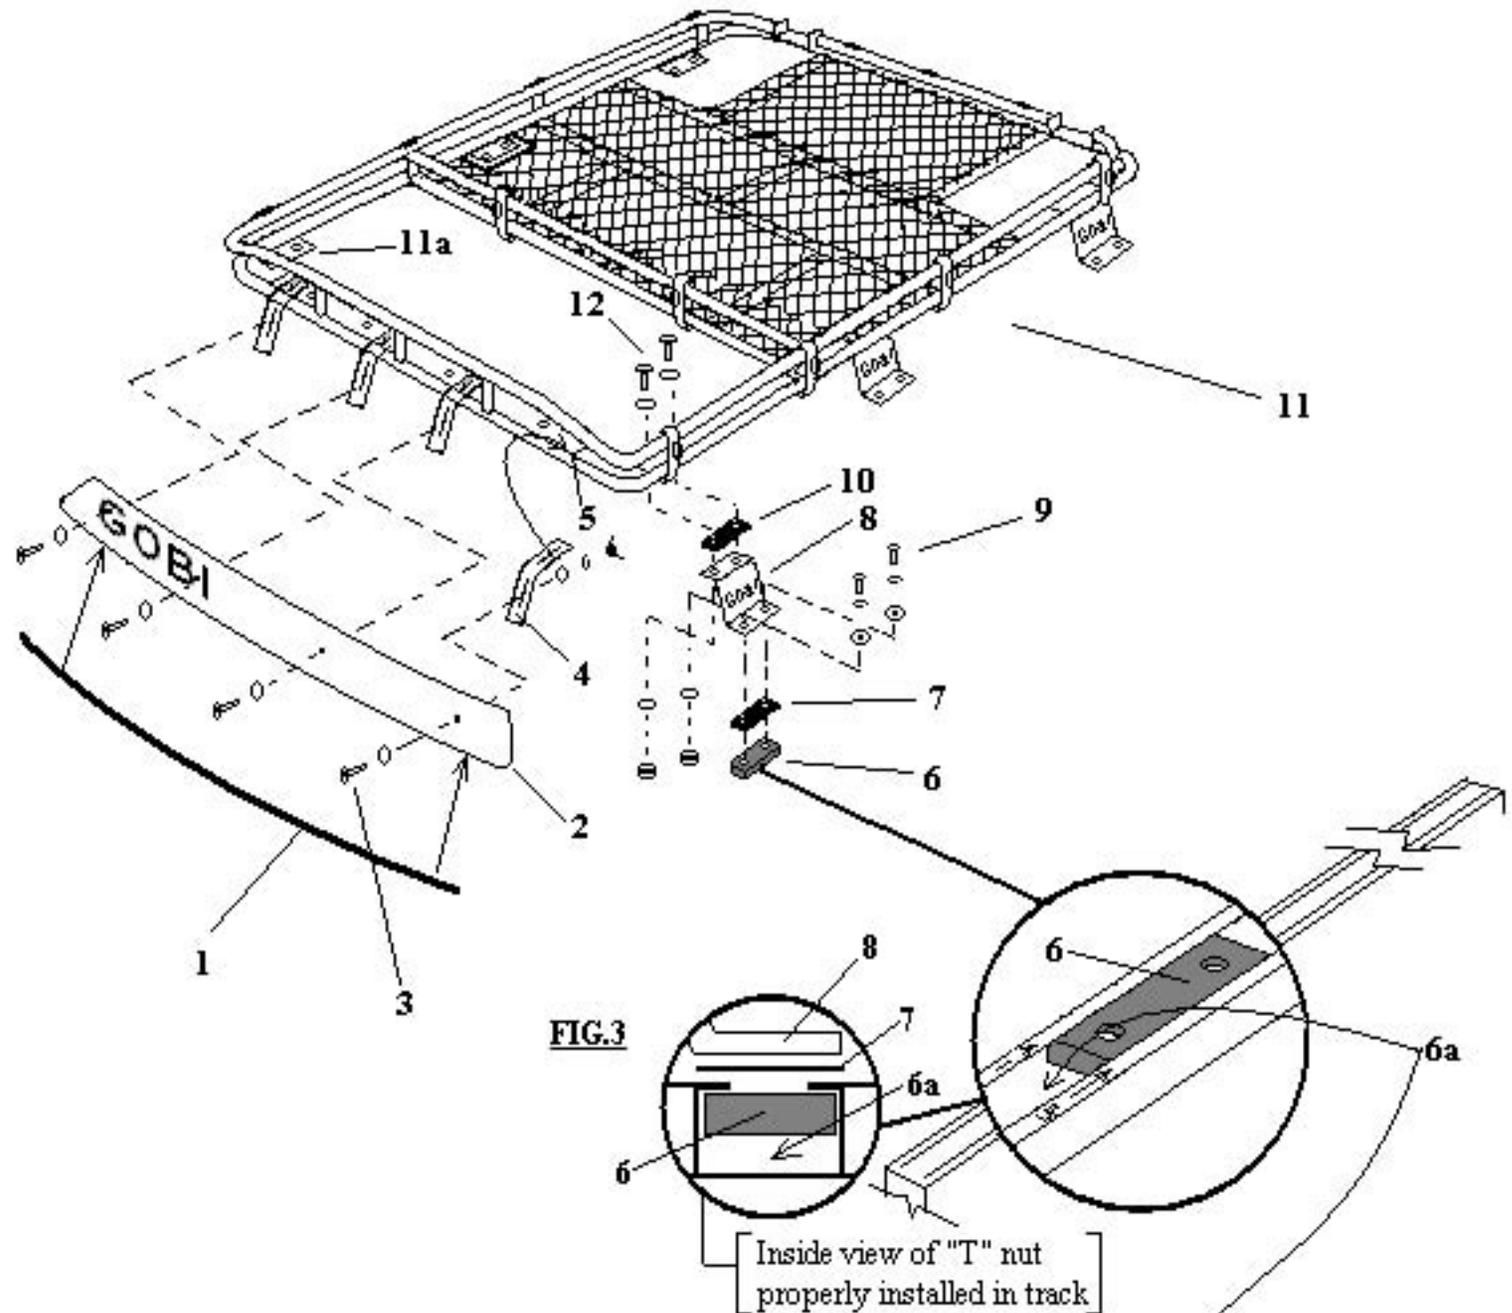
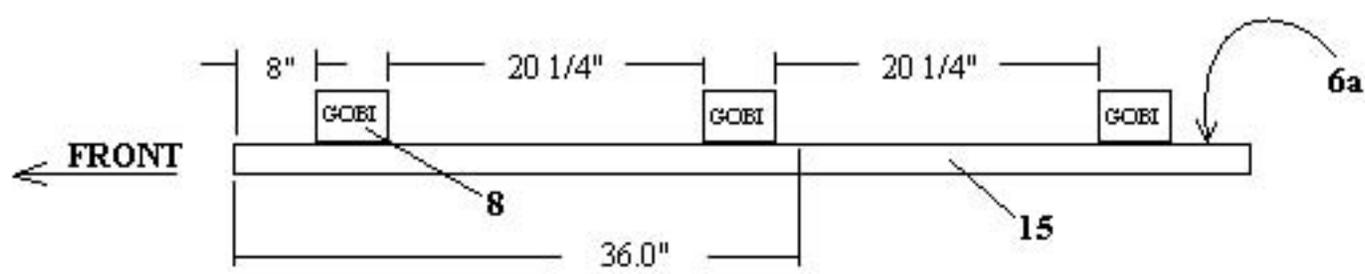

FIG.3
FIG.1
3. If the GOBI roof rack calls for 2" support brackets both the front and rear factory cross bars must be removed at this time. If the GOBI roof rack calls for 4" brackets remove only the rear cross bar and slide the front cross bar #14 back approximately 36" from the front of the roof track #15 as shown in Fig. 1 page 4 do not fully tighten down cross bar at this time.
6. Place support bracket #8 in the direction shown in the illustration with small bolt holes faced down onto rubber washer #7 and thread bolts, lock washers and washers #9 found in Plastic Bag labeled #3 thru support bracket #8 and into "T" nut #6. **Make certain** "T" nuts are installed in vehicle roof track 6a correctly as shown in Fig. 3 page 4. Repeat this step to all #8 support brackets and keep spacing of #8 support brackets as shown in Fig. 1 page 4. Finger tighten bolts at this time.
7. After all #8 support brackets have been installed and spaced as shown in Fig. 1 page 4 place the GOBI rack #11 with welded-in brackets #11a on top of all #8 support brackets.